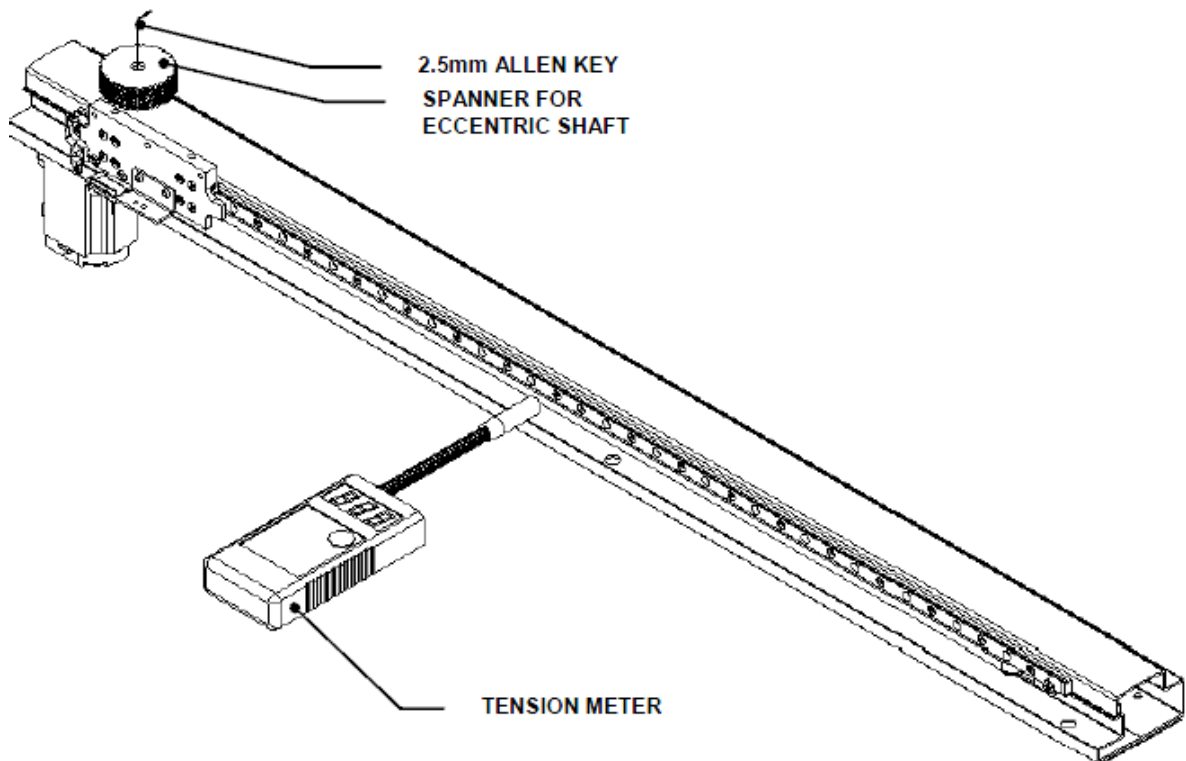
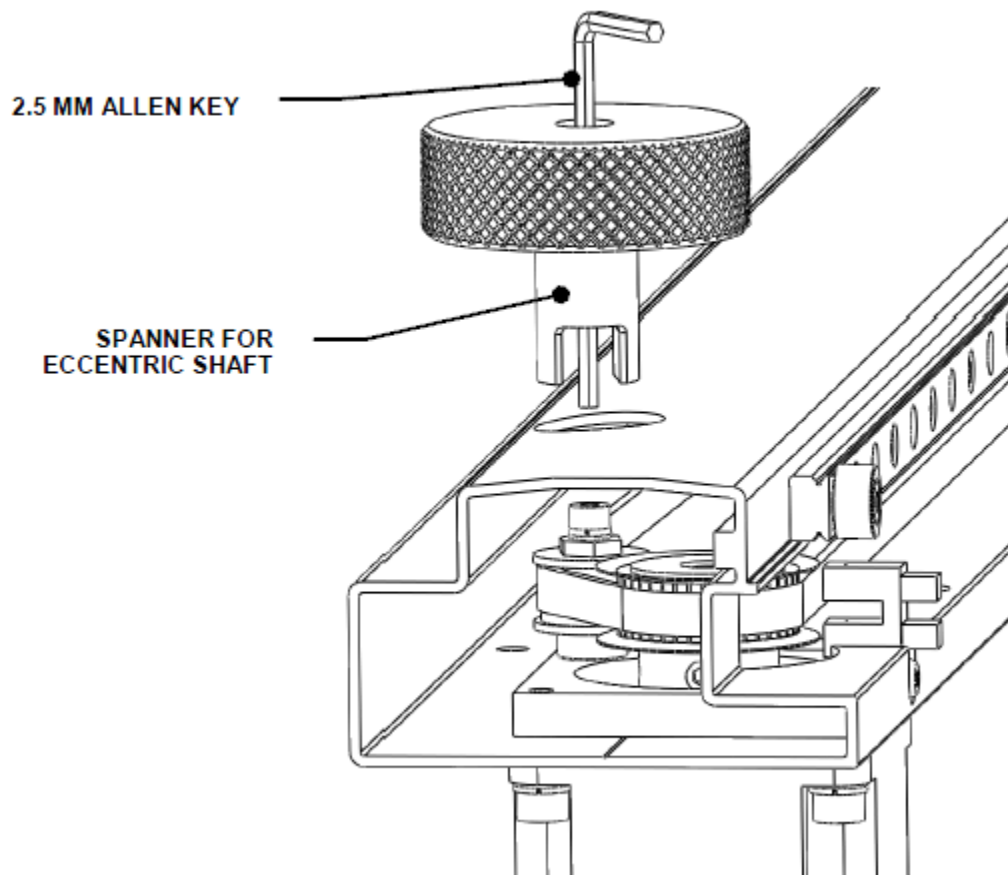

Figure S-12: Location of Tension Meter
Figure S-13: Location of Allen Key and Spanner
4. Measure the tension using the Gates Sonic Tension 507C at the position indicated in Figure S-12. The tension should read 29-30 Hz. Adjust the tension using the spanner (Figure S-13); when the tension is correct, secure the pulley with the Allen key.